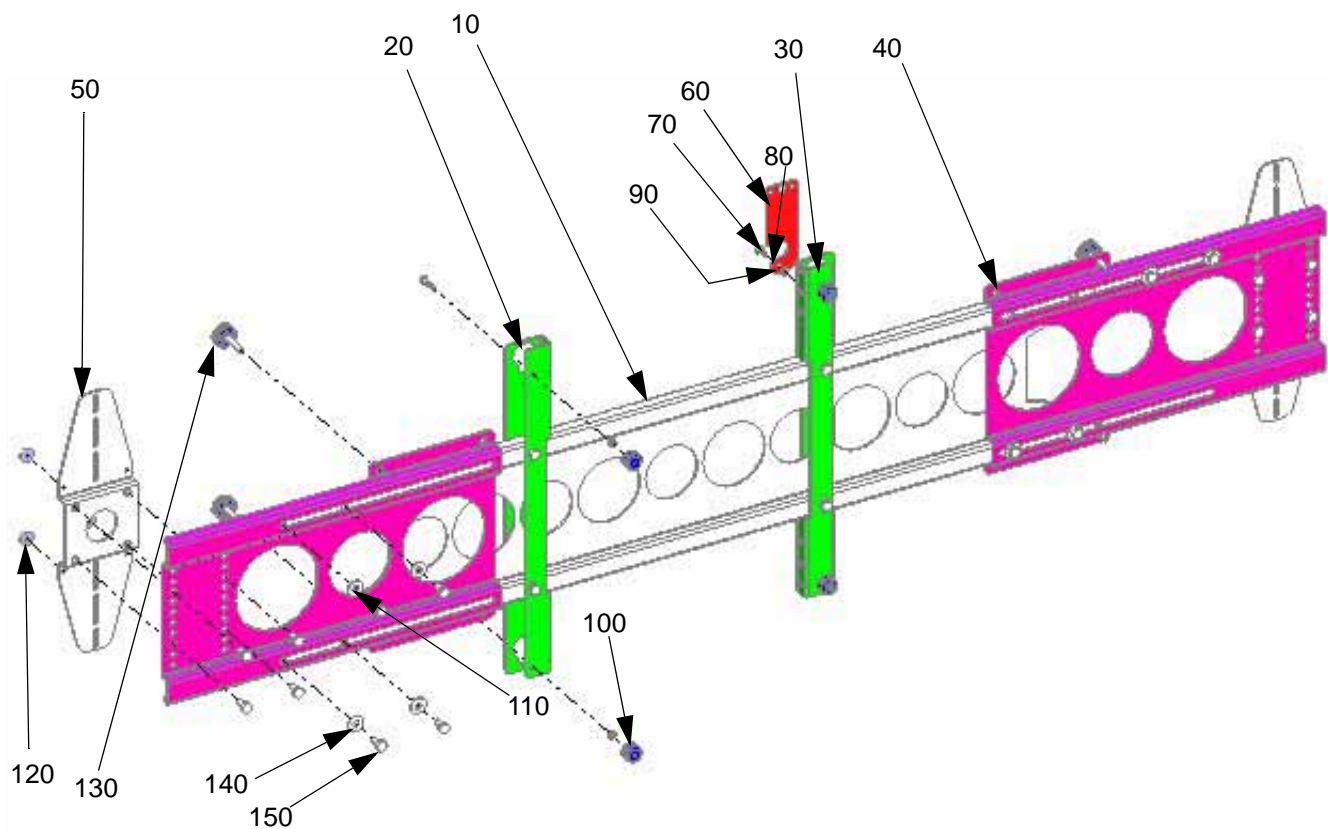
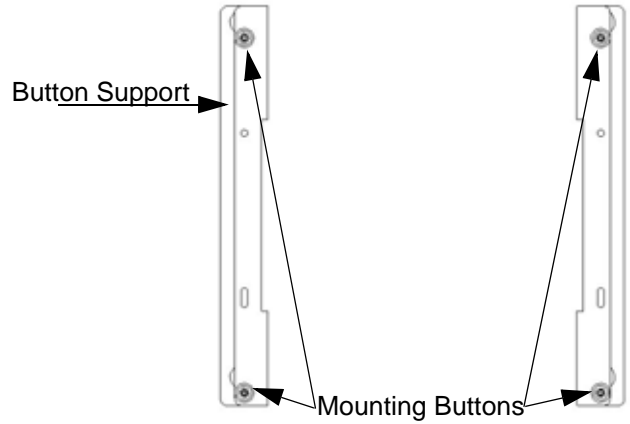
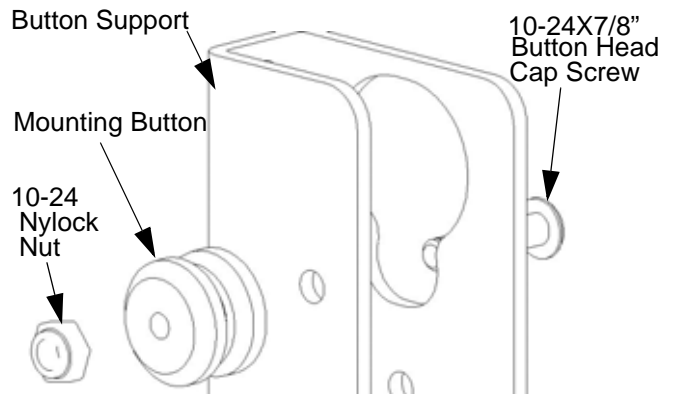

Figure 1. Speaker Mount Assembly
Figure 2. Mounting Button Location
Figure 3. Mounting Button Attachment
2. Carefully inspect the Speaker Mount Assembly (PAC-300) components for damage (See Figure 1).
**NOTE:** Numbers in ( ) refer to parts shown in Figure 1.
1. Attach two mounting buttons (100) to left speaker mount button support (20) and right speaker mount button support (30) using four 10-24X7/8" button head cap screws (110) and four Nylock nuts (90) (see Figure 1, Figure 2 and Figure 3).